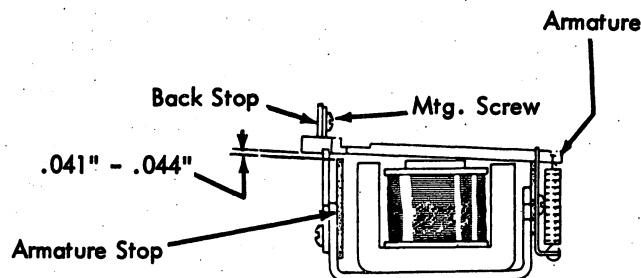

FIGURE 30. Armature Backstop
5. **Back Stop (Fig. 30)** - Position vertically (with armatures at rest) for a clearance of .041" to .044" between the armature stop and armatures. Measure clearance at the outside armatures (T2 & R5).